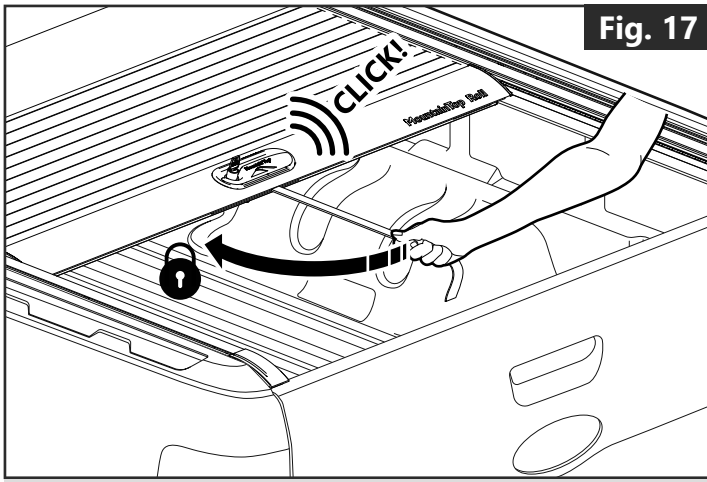

Fig. 17
- Engage the lock again by either going to the fully open position, or by using the pull strap to engage the lock. (**Fig. 17**)
- To toggle the locking system, pull the strap either left (**engage**) or right (**disengage**). (**Fig. 17+18**)